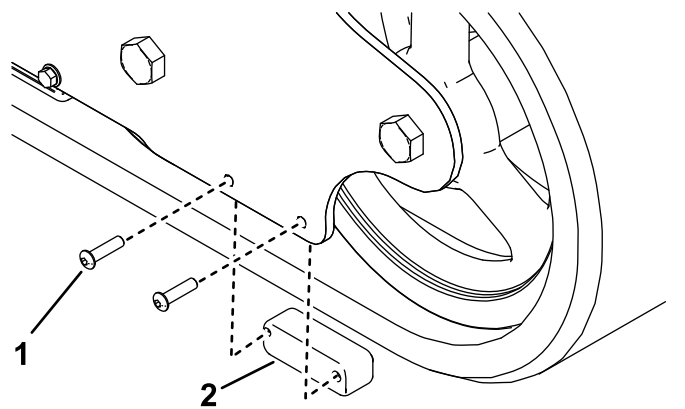

Figure 2
2. Apply thread-locking compound to the button-head bolts and use them to install the kit wear block (Figure 2).